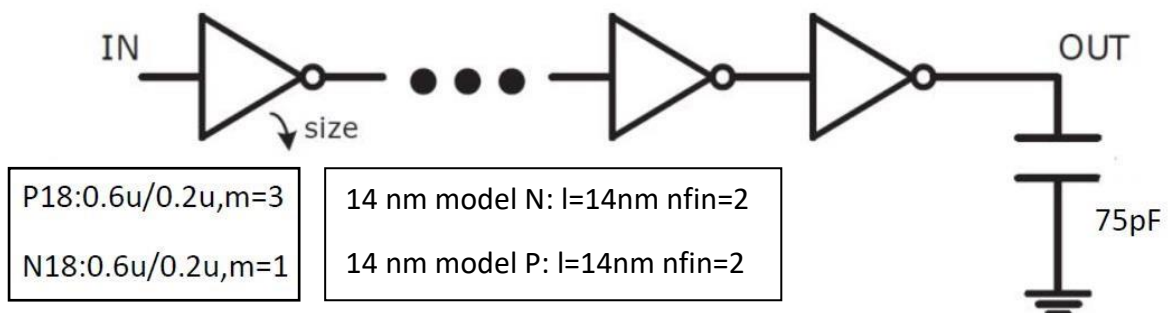

Fig.1
1. Run an inverter buffer (out =  $\bar{in}$ ) with output loading 75pF with VDD = 1V, as shown in Fig 1. (The size of the first inverter has been assigned.) (the rising time and falling time of input is 0.01ns & input frequency = 5MHz).